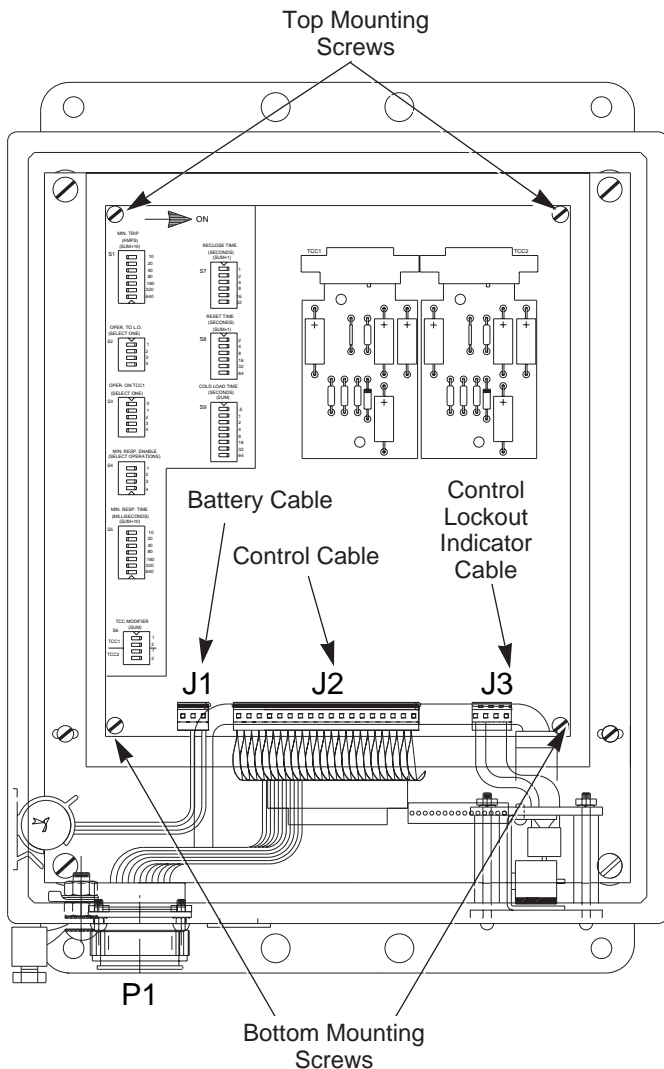

Figure 3.
3. Refer to figure 3. Remove the battery cable from connector J1, control cable from connector J2, and control lockout indicator cable from connector J3 on the original circuit board. Do not bend the tabs or terminal pins on the connectors.